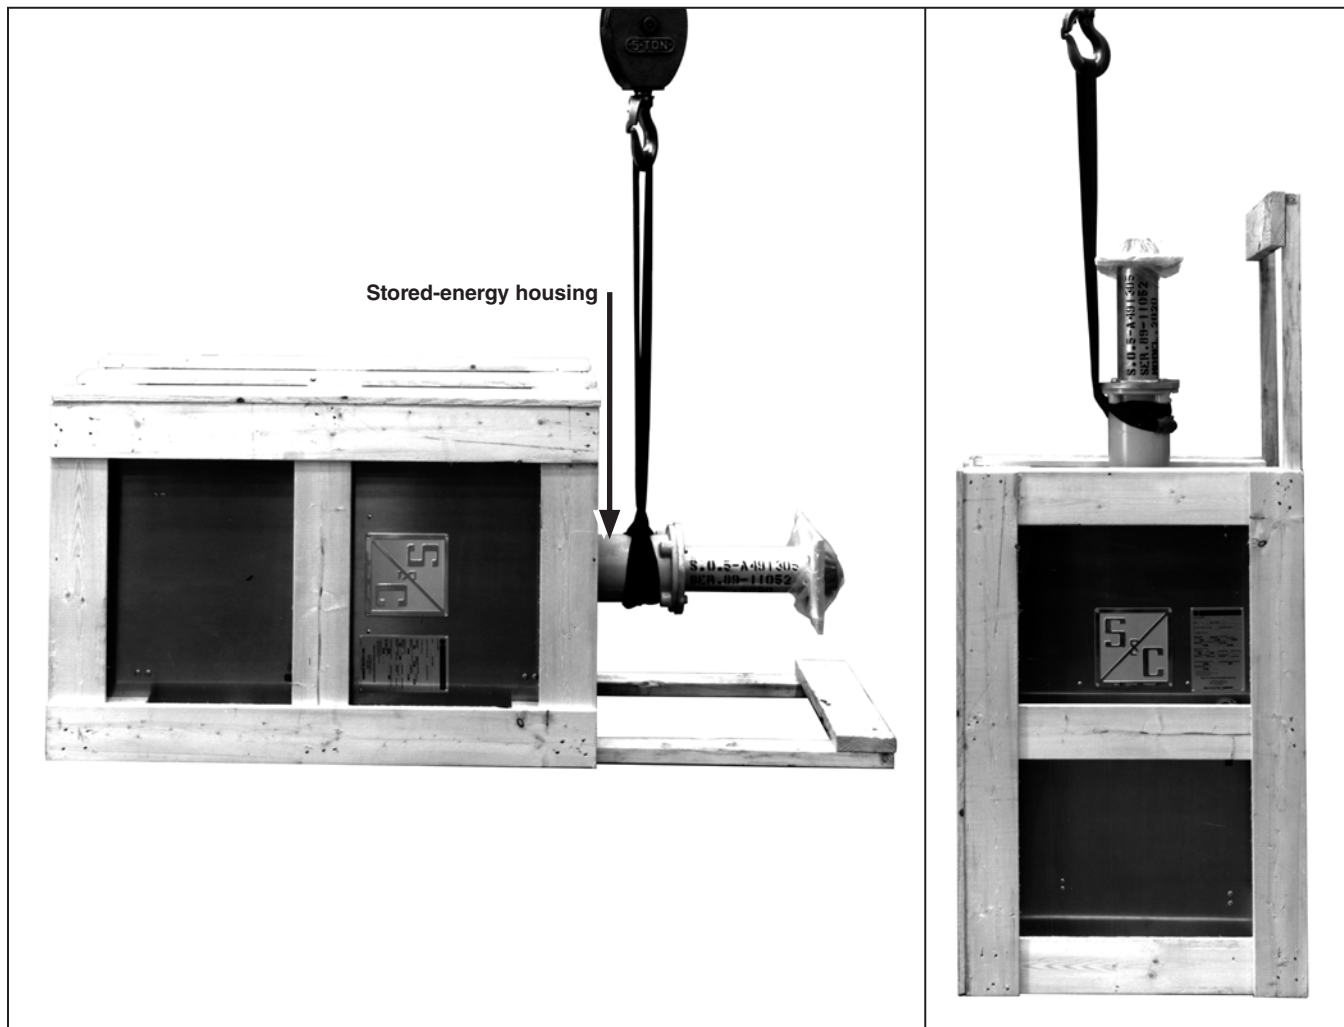

Figure 9. Raising the operator up on the base skid.
STEP 2. Wrap a lifting sling around the stored-energy housing of the operator, as shown in Figure 9 (left). Now, carefully raise the operator to the **Upright** position so it rests on its base skid, as shown in Figure 9 (right).